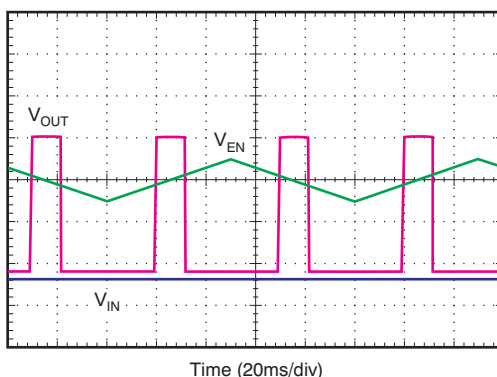

Figure 28. Enable Pin Positive and Negative Threshold
The TPS7A33 provides a dual-polarity enable pin (EN) that turns on the regulator when  $|V_{EN}| > 2$  V, whether the voltage is positive or negative, as shown in Figure 28.